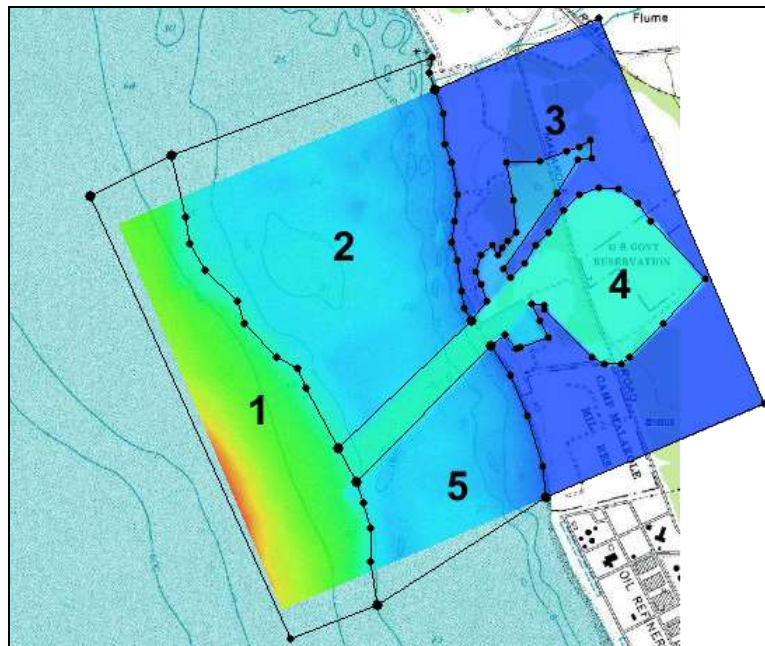

Figure 2 Polygons
2. Using the **Create Feature Arc**  tool, click out the borders for sections 1, 2, and 5, connecting them to the existing coastline arc as shown in Figure 2.
3. Using the **Create Feature Arc**  tool, create the outside border for section 3, connecting it to the existing coastline arc as shown in Figure 2.
1. Using the **Select Feature Polygon**  tool, double-click on polygon 1 (as indicated in Figure 2) to bring up the *Roughness* dialog.